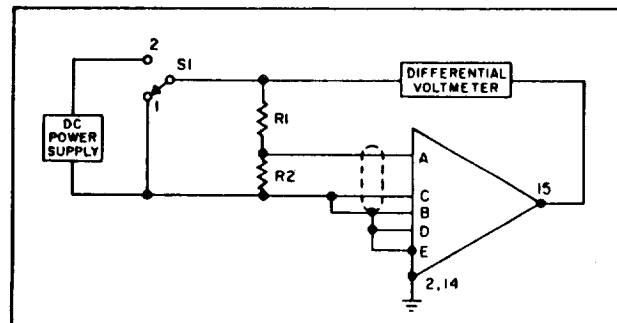

Figure 6-11. Gain Accuracy Test Circuit ( $G > 1$ )
- 1) Connect the amplifier as shown in Figure 6-11. Use R2 = 10 ohms  $\pm .01\%$  with the standard